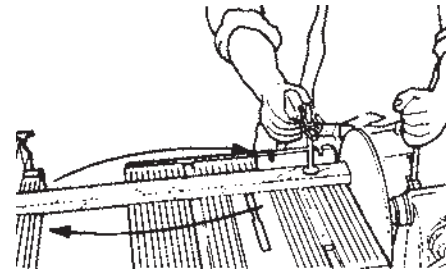

Figure C-20
3. Squeeze the safety grip with one hand, then turn on and adjust the MARK 4 [Shorty] speed. Feed the disc forward with the quill until it just contacts the stock. Back it off, then advance it again. Don't extend the quill all the way at this time, just sand until the end is smooth. Then, turn the stock and sand the other end. This time, advance the disc until the depth control stops it. See Figure C-20. Repeat this procedure as needed with the other boards you need to sand. When finished, they will all be exactly the same length.